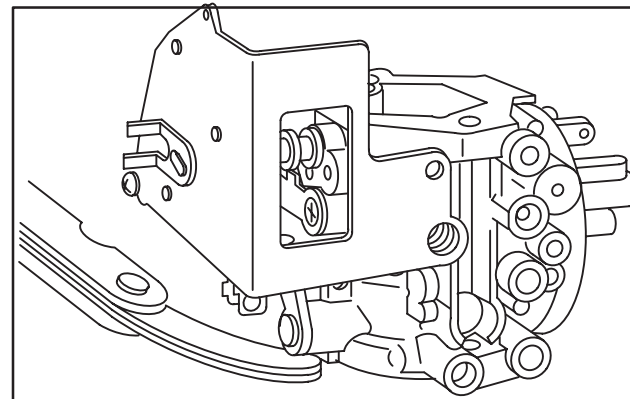

Fig. 38 – Checking Clearance
1. Lay carburetor on flat surface and check throttle and choke shaft clearance as shown in Fig. 38.